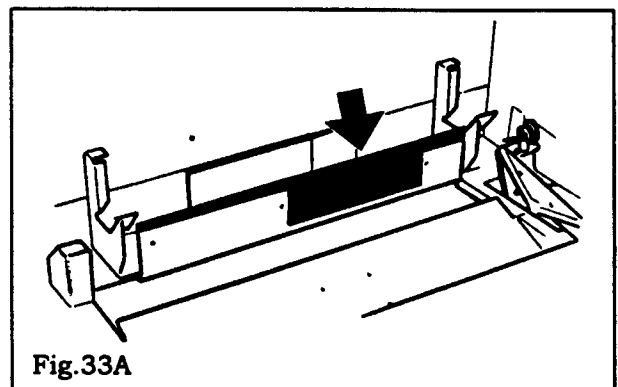

Fig.33A
9.1.1.8 Remove the rear burner tube and fit the burner baffle plate **behind** the rear burner air deflector with three thread cutting screws supplied (Figure 33A). The baffle plate is supplied with kit #819ARK. Refit the rear burner